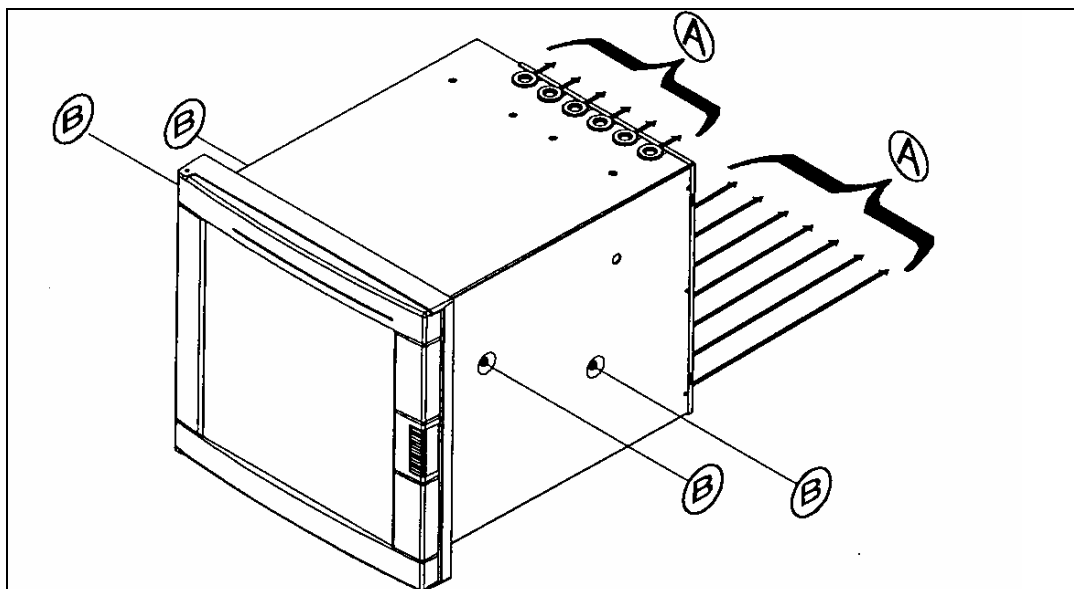

Figure 2-4
9. Remove all the grommets. (See ref. A, Figure 2-4)
10. Unscrew the 4 fixing screws (M4) and remove from the chassis with the Torx key T20. (See ref. B, Figure 2-4)
39. Replace the 4 fixing screws (M4) with the Torx key T20. (See ref. B, Figure 2-4)